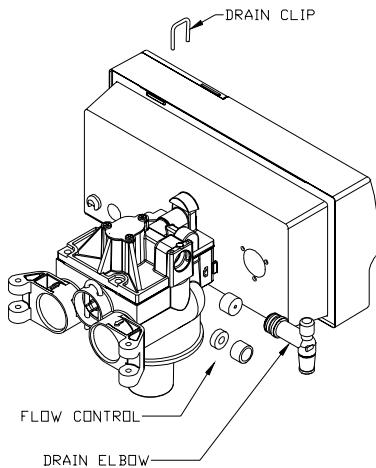

FIG. 4
* Use with flow control spacer provided. Figure 4 shows installation of the flow control with the spacer.
For the backwash flow control conversion, refer to figure 4 and the instructions listed below.
*NOTICE: For the 12" *Filtr-Cleer*, insert the plastic spacer after the 7 gpm flow control washer. See Figure 4.*